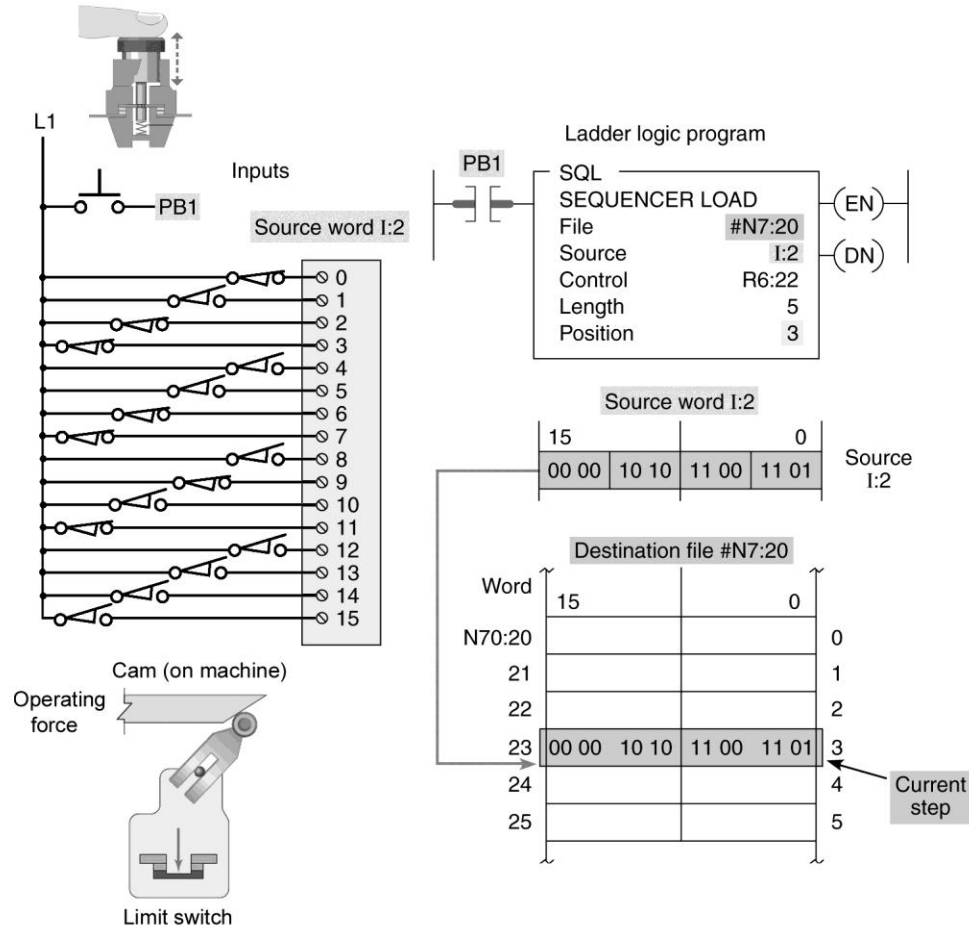

Figure 12-26 Sequencer load (SQL) program for assignment 9.
9) The sequencer load (SQL) program of Figure 12-26 is described in the text. Prepare an I/O connection diagram and ladder logic program that will simulate its operation. Use addresses that apply to your PLC installation. Enter the program into the PLC, and verify its operation.